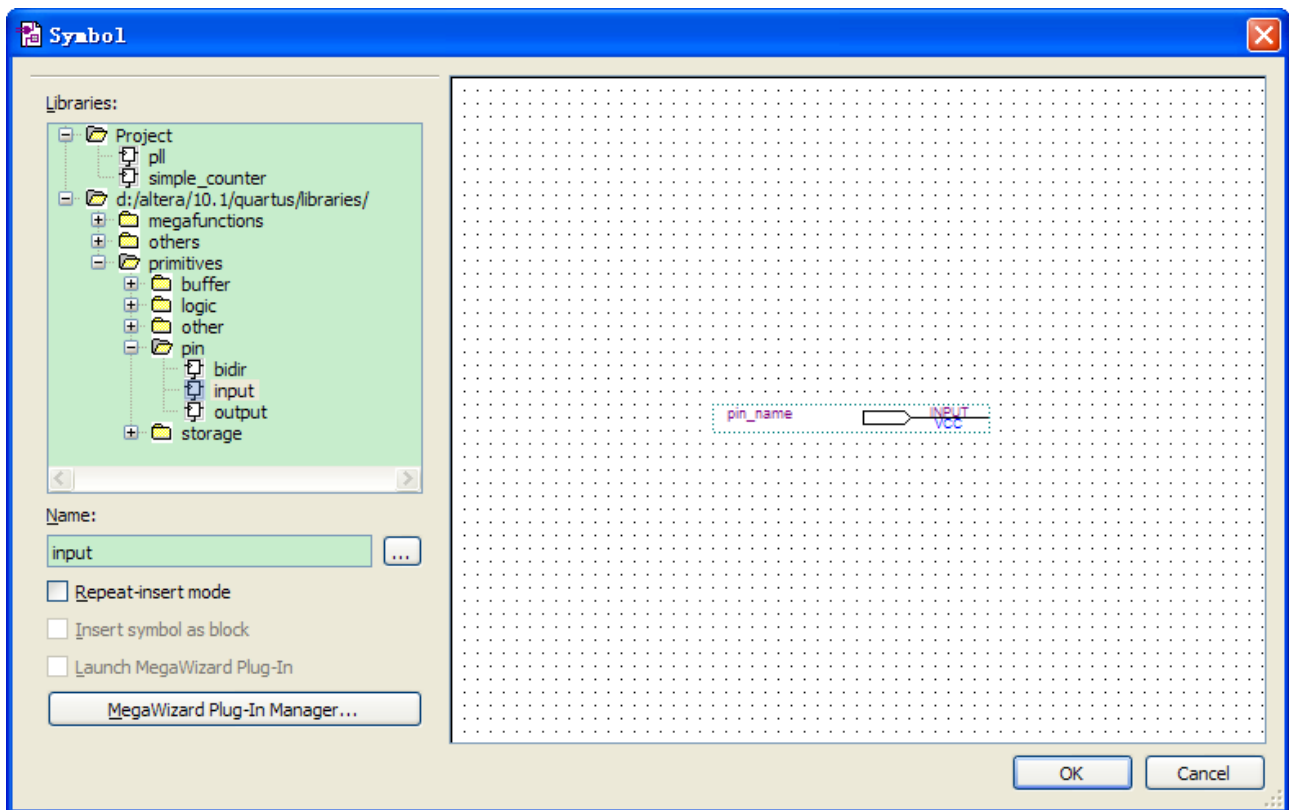

Figure 6-28 Input pin symbol
2. Under Libraries, select quartus/libraries > primitives > pin > input. See **Figure 6-28**